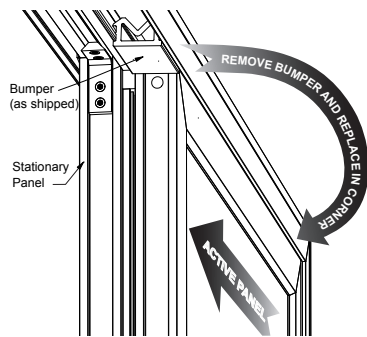

Figure 1 — Remove and Replace Bumper
3. Remove the bumper that is placed in the active panel track to prevent movement during shipment (**Figure 1**). Move the active panel and place the bumper in the track at the top corner behind the stationary panel.
- E. Active panel bumper (**Figure 1**)
5. With the door frame in its new orientation, replace the aluminum active panel track, aluminum screen track, aluminum threshold and the weep plugs and covers. The weep covers with the operating flap must be at the bottom of the frame with the flap hinge up. Replace the active panel bumper in the top corner of the active panel track behind the stationary panel (**Figure 1**).